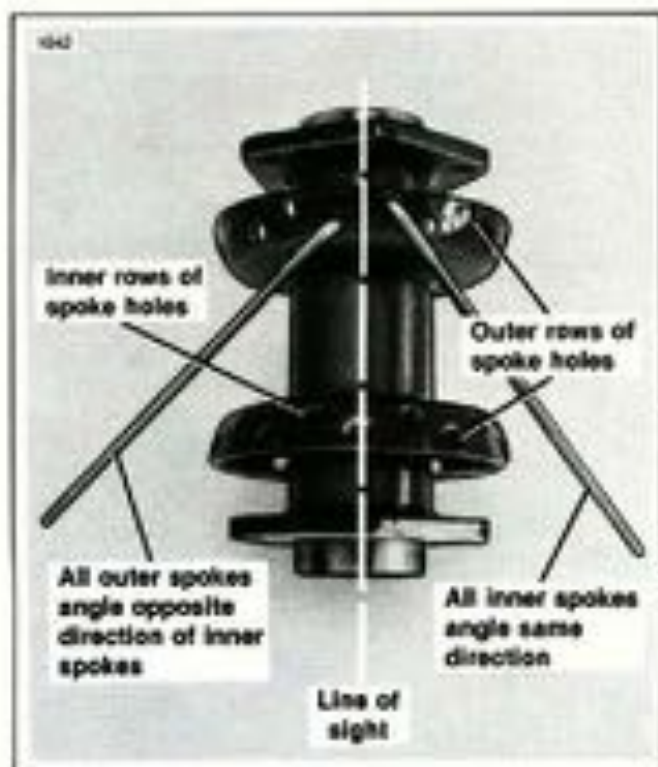

Figure 2-24. Hub
- See Figure 2-24. To identify a late style hub, pick any outside spoke hole and sight straight across the hub. The first spoke hole to the right of the centerline is an outside spoke hole.
- See Figure 2-24. Insert 10 spokes into the upper flange inner spoke holes. Swing the loose ends in the same direction as far as the hub will allow.